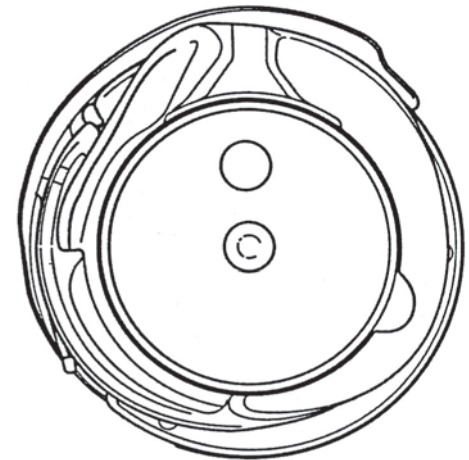

Fig. 26a
- Remove the bobbin case base with sewing hook gib (fig. 26a).